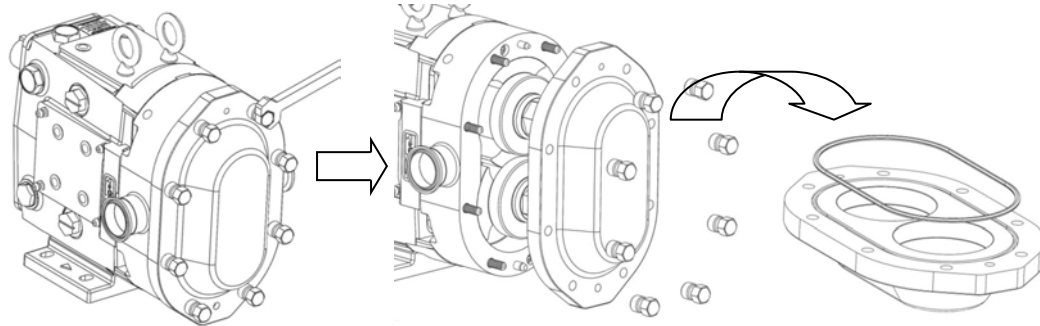

Figure 23: Removing ZP2 Cover
1) Start by removing the cover nuts using an appropriate wrench (Figure 23). During disassembly place all parts on a clean, protected surface with finished surfaces and seal faces facing up. Tap the cover off using a soft mallet. Remove the cover o-ring and inspect.